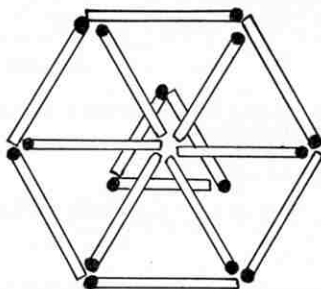

Fig. 2
- No. 7. The matches are arranged as in Fig. 2.